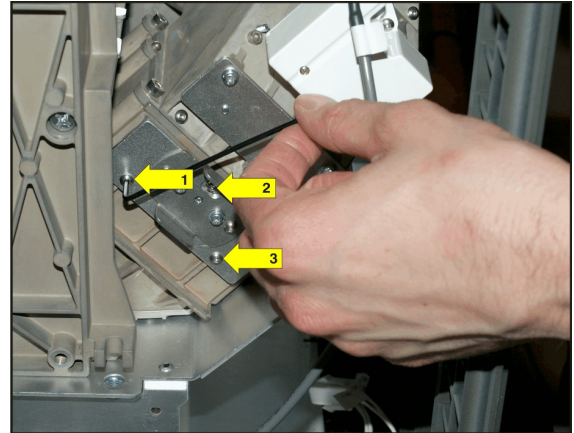

Figure 5-76 Remove YNF
3. Remove the three screws securing the YNF to the IOS (Figure 5-76). If necessary, loosen the center nut.